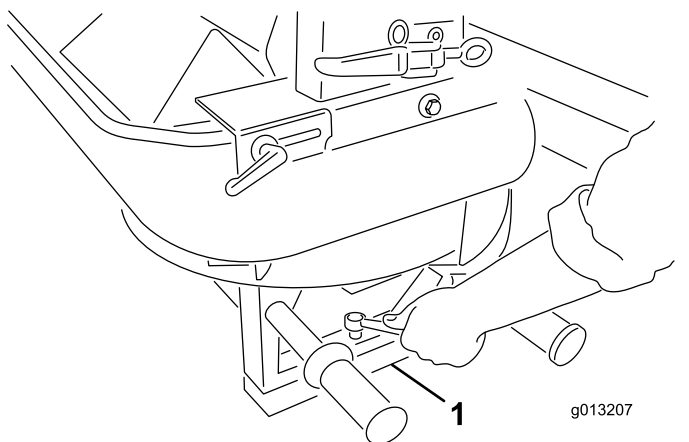

Figure 6
5. Remove the 4 screws from the legs of the twin spinner. With the help of a partner, lift the twin spinner and remove the packing studs and packing foam (Figure 6).